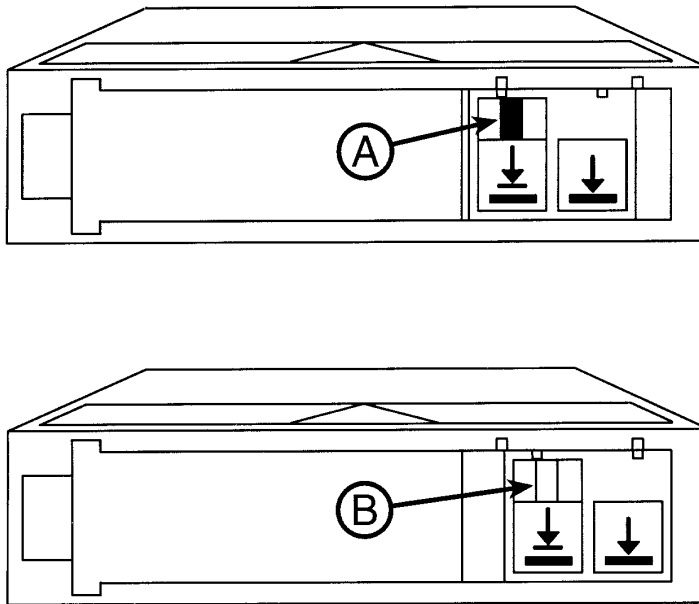

FIGURE 3-3 Write-Protect Button Settings
- Position A in FIGURE 3-3 to *prevent* writing data to the tape. The orange indicator on the tape can be seen when the write-protect switch is ON.
- Position B in FIGURE 3-3 to *allow* data to be written to the tape. The orange indicator on the tape cannot be seen when the write-protect switch is in the OFF position.